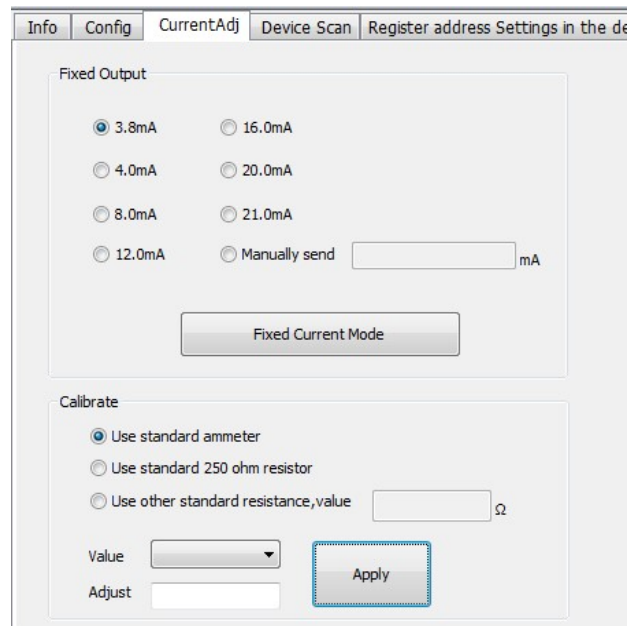

Figure 5.22 Current calibration tab
- (1) Left-clicks on an online device in the network view, and the right tab view displays the tabs associated with the device.
- (2) Click on "current Calibration" in the right tab view, and if the information is obtained successfully, the current calibration function is displayed, as shown in Figure 5.22.